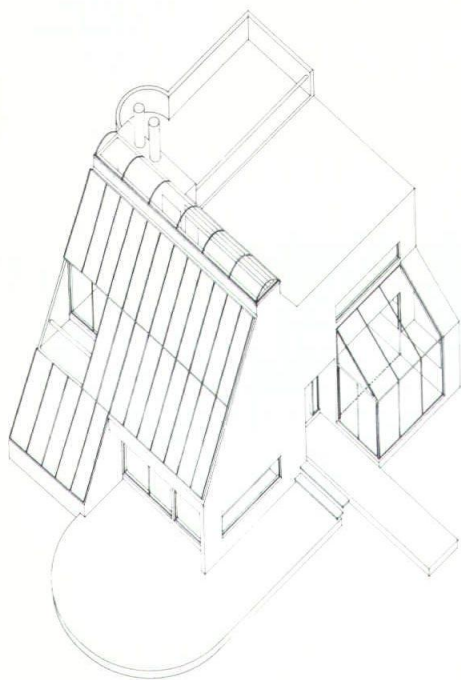

Figure 15
Ecolog Houses. Figure 15 shows an alternative house form for flat-plate solar collectors to provide partial or complete solar heating. Other energy conserving features include a sun monitor, a sun room, and a heat-retaining fireplace. The plans allow variation from two to five bedrooms and are dimensioned for rationalized construction to permit self-help assembly by the owner (12).